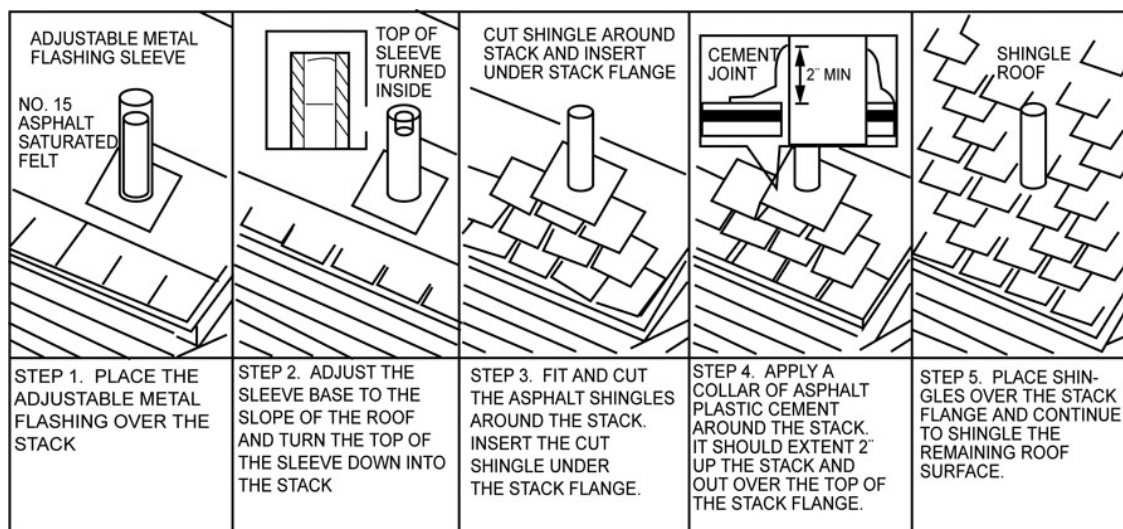

Figure 1-15. Flashing around a roof projection.
**NOTE:** Make sure that there are not any joints in the shingles above the pipe—offset if necessary (fig. 1-15).